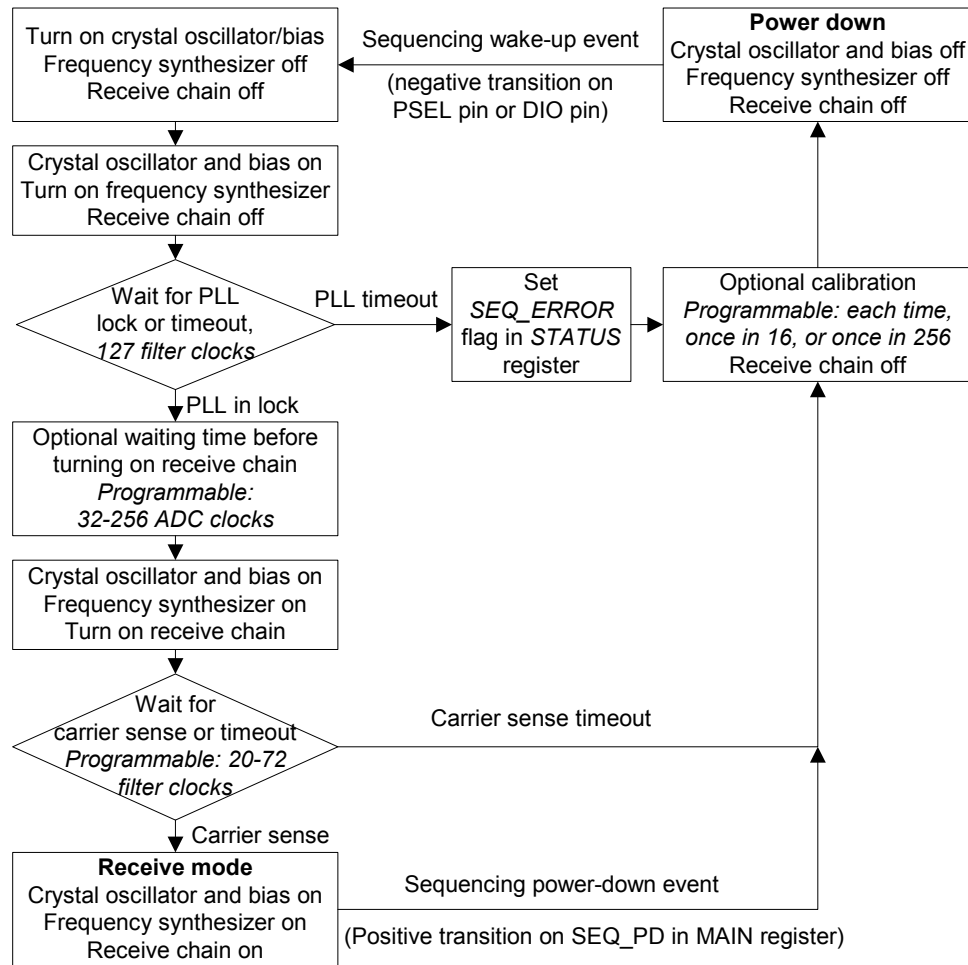

Figure 19. Automatic power-up sequencing flow chart
*CC1020* has a built-in automatic power-up sequencing state machine. By setting the *CC1020* into this mode, the receiver can be powered-up automatically by a wake-up signal and will then check for a carrier signal (carrier sense). If carrier sense is not detected, it returns to power-down mode. A flow chart for automatic power-up sequencing is shown in Figure 19.
**Notes to Figure 19:**